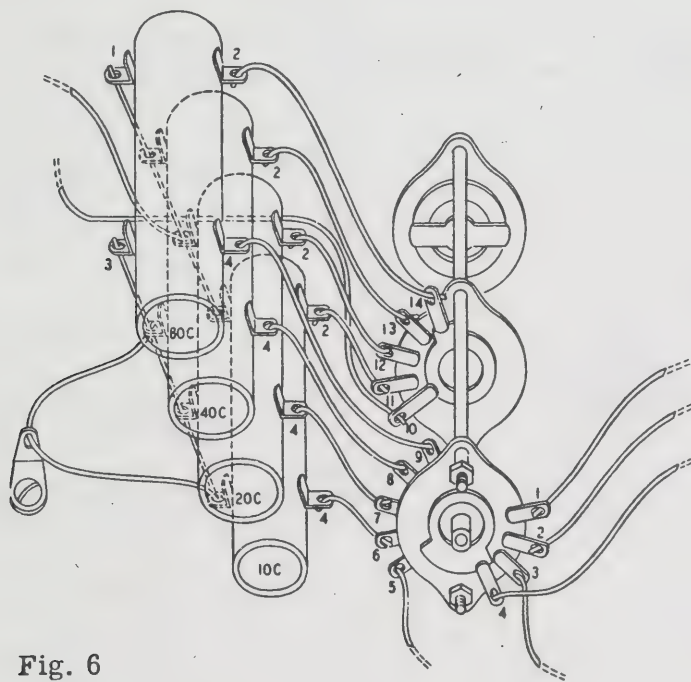

Fig. 6
- ( ) Connect a short heavy tinned wire from 40C4 (S) to SB8 (S).
- ( ) Connect a short heavy tinned wire from 80C4 (S) to SB9 (S).
- ( ) Run a heavy tinned wire through the #1 terminals of all the coil. See Pictorial 2 and Figure 6.
- ( ) Connect one end of a heavy tinned wire to SB10 (S). Run this wire around coil 10C to CA2B on the tuning condenser (S). See Figure 6.
- ( ) Connect the end of the 100  $\mu\mu\text{f}$  condenser coming through the chassis to CA2A (S).
- ( ) On the bottom side of the chassis run the 6 1/2" length of bus between TB2 (S) and TC1 (S).
- ( ) Connect a heavy tinned wire to SB3 (S). Run this wire clear of terminal SB4 to the bus wire just installed. Make a firm connection to this bus and solder.
- ( ) Connect one end of the cord to TA1 (S).
- ( ) Connect the other end to TA3 (S).